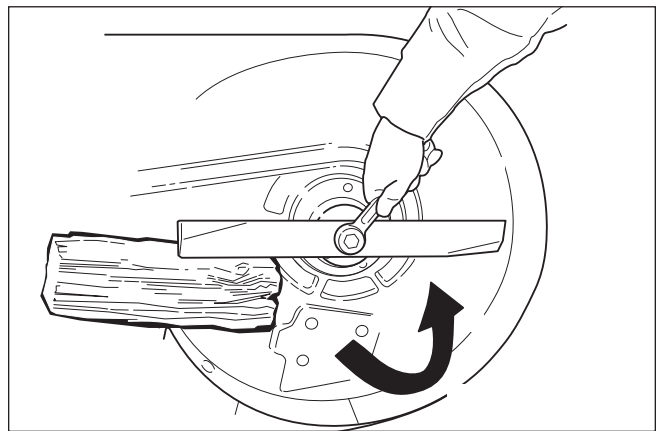

Figure 26. Loosening the Mower Blade for Removal
1. To remove the mower blade, use a 1" wrench on the flats of the spindle shaft and remove the mower blade mounting bolt with a 15/16" wrench (Figure 26).